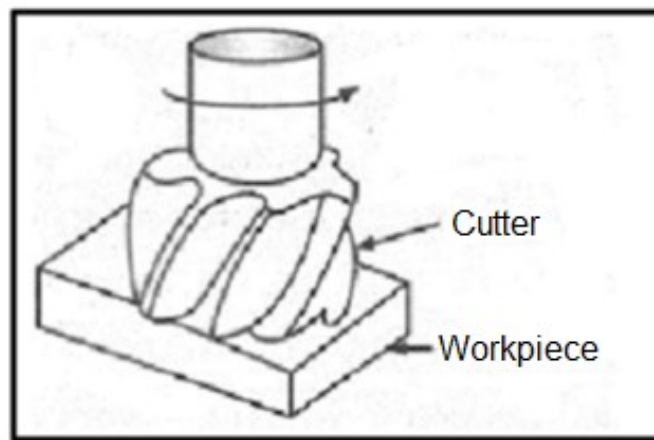

FIGURE 4.2
4.2 Which milling operation is shown in FIGURE 4.2 below: